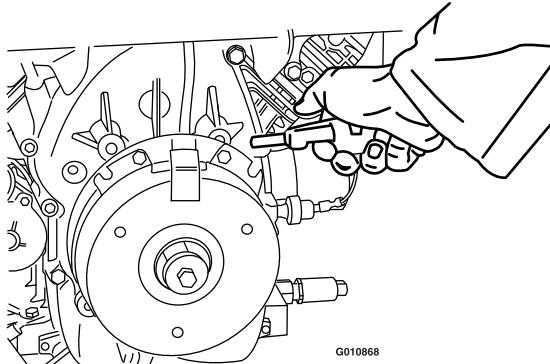

Figure 73
3. Using an air compressor, blow out any debris from under the brake pole and around the brake spacers (Figure 73).